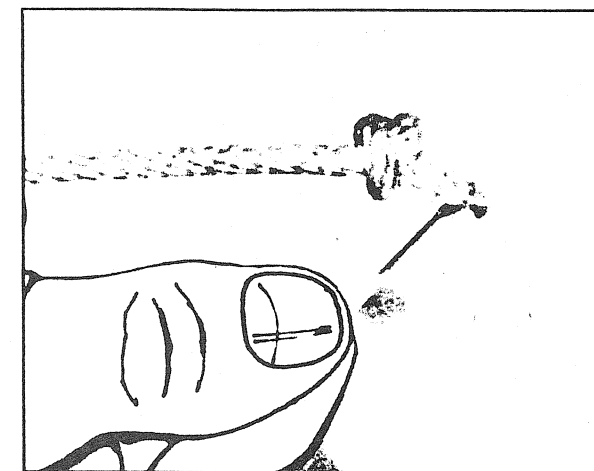

FIGURE 10
- With a lit match, slightly heat the knot to fuse the nylon fibres. (Fig. 10).